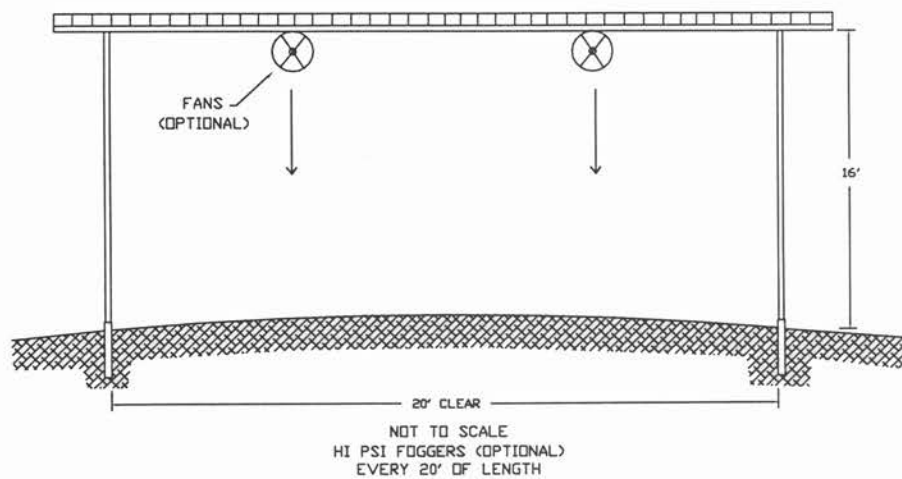

Figure 1. Typical Shade Structure
**Permanent shade structures** can be used. These should be 16 feet high with a dirt floor, mounded to promote drainage. The structure should be oriented with the long axis in a north-south direction so the cows can follow the shade outside the roof, and the sun can dry out the dirt floor. Fans and foggers can be added for increased cooling effectiveness. See Figure 1 for a typical shade structure.